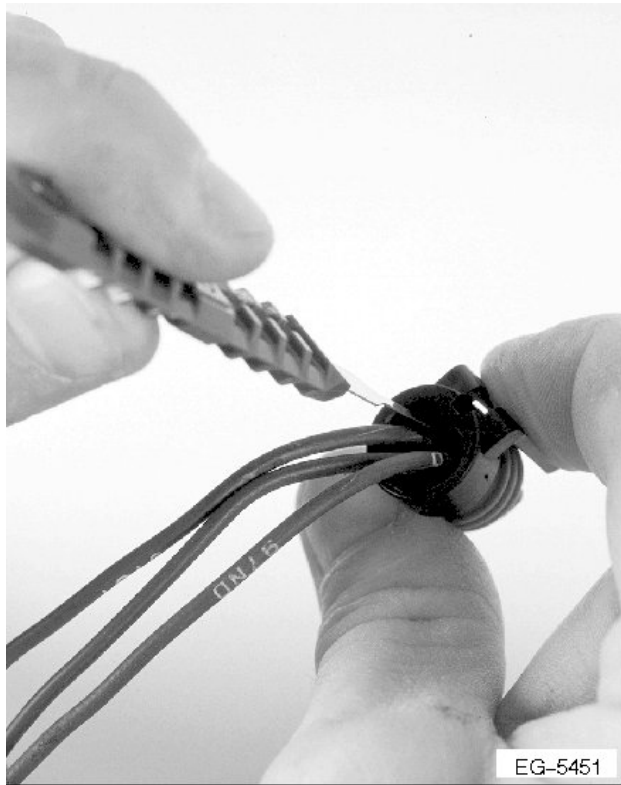

Figure 285 Release Terminal
4. Push the blade forward until the lock tab is depressed (See Figure 285, page 449).